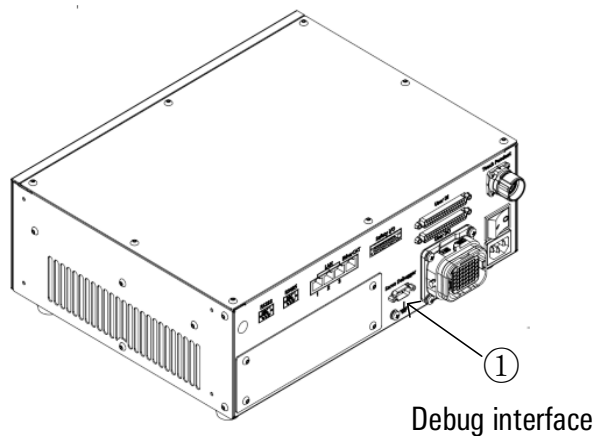

Figure 6-1 Interface of control cabinet Servo Debugger
The Servo Debugger interface of the inCube2S-20 control cabinet is a multi-axis drive debugging interface, located on the rear panel of the control cabinet. Refer to Figure 6-1 below. When debugging the multi-axis drive parameters, you need to use an RS422 to USB cable to connect to the interface shown in Figure ①.